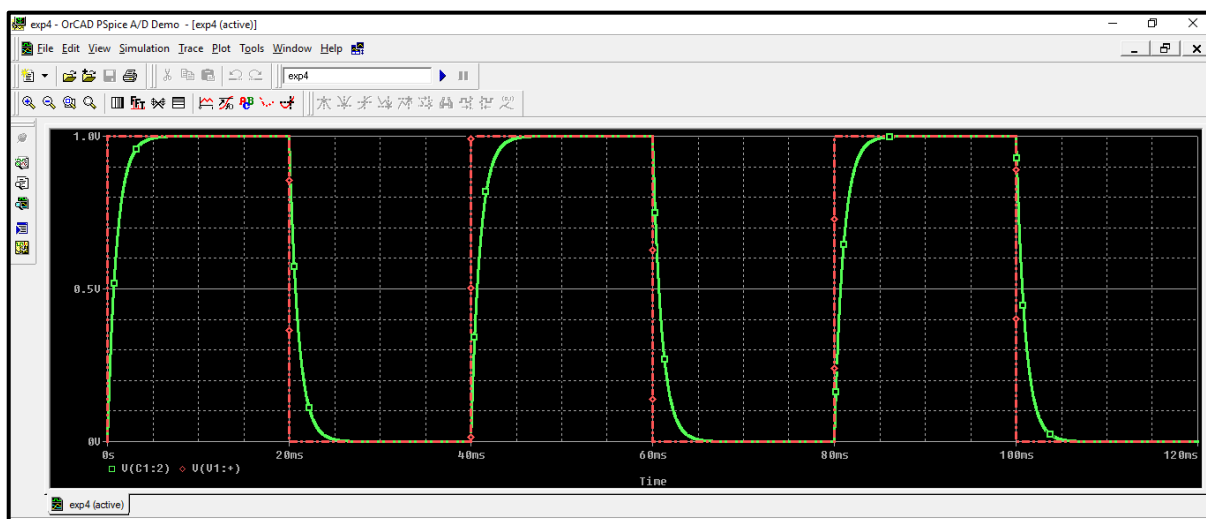

Figure.41
- The output is now displayed in figure.41.